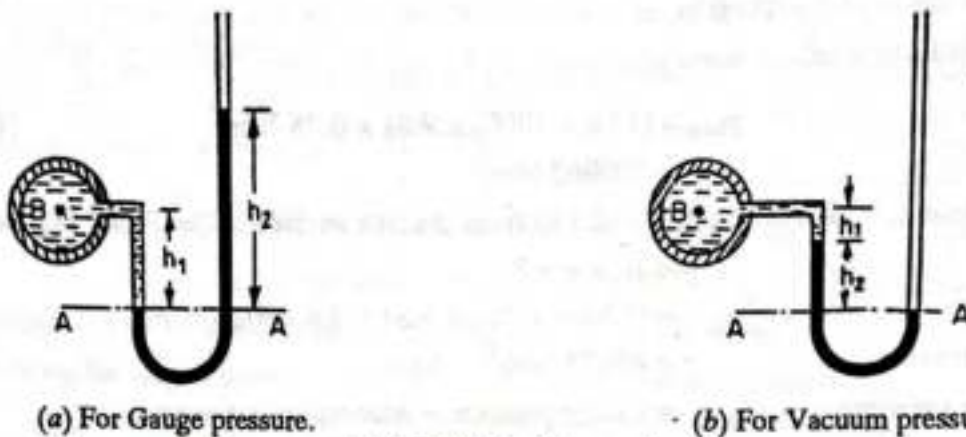

Fig. 2.9. U-tube Manometer.
**2.6.2. U-tube Manometer.** It consists of glass tube bent in U-shape, one end of which is connected to a point at which pressure is to be measured and other end remains open to the atmosphere as shown in Fig. 2.9. The tube generally contains mercury or any other liquid whose specific gravity is greater than the specific gravity of the liquid whose pressure is to be measured.
**(b) For Vacuum Pressure.** For measuring vacuum pressure, the level of the heavy liquid in the manometer will be as shown in Fig. 2.9 (b). Then